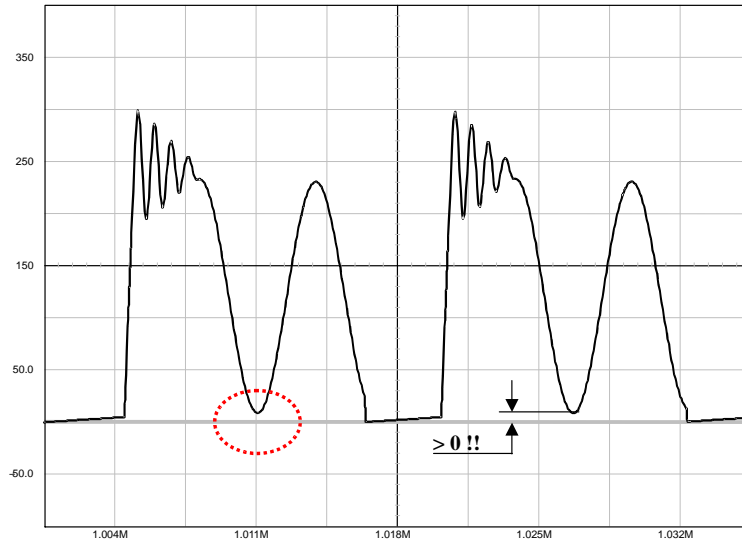

Figure 26. The Drain-Source Wave Shall Always be Positive . . .
1. In any case, the lateral MOSFET body-diode shall never be forward biased, either during startup (because of a large leakage inductance) or in normal operation as shown by Figure 26.